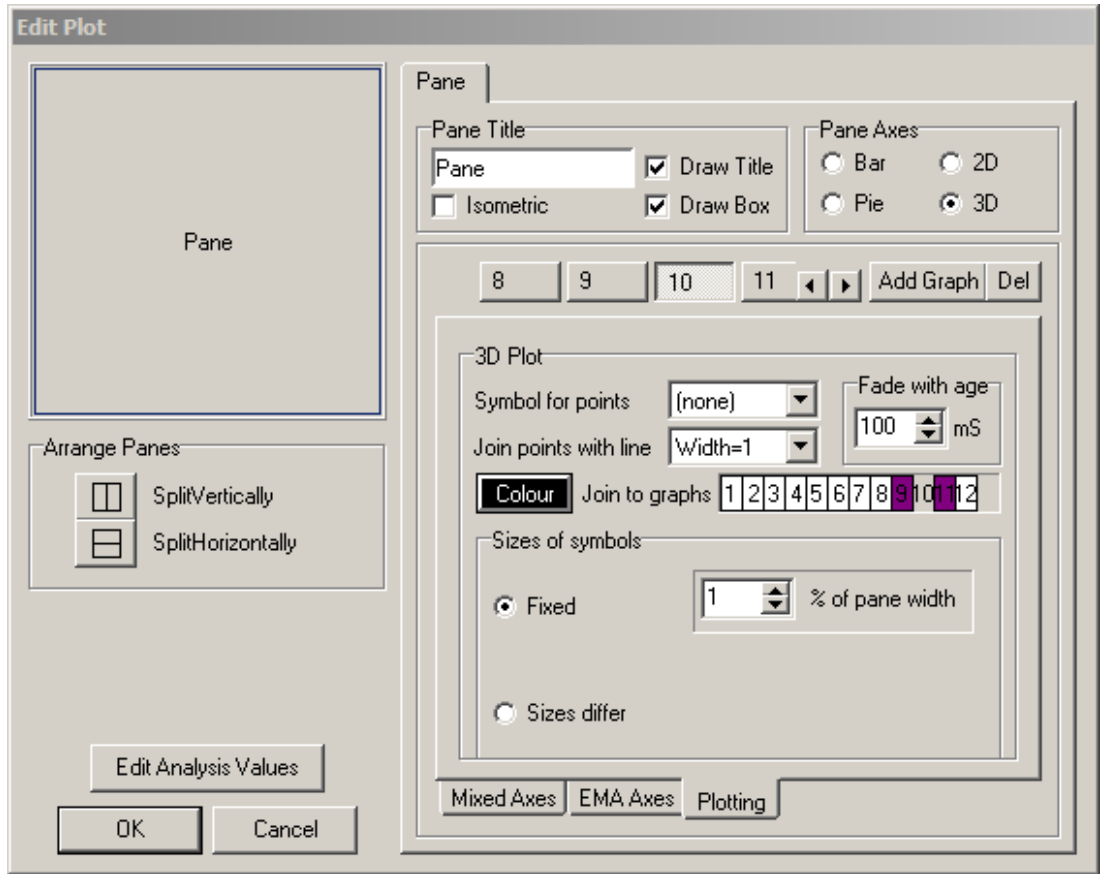

Figure 12 Selecting sensors to be linked together
7. Select the 'Plotting tab' and choose which channels to link together with a coloured line. For example to link three tongue sensors, select the graph with the middle tongue coil (in Figure 12 Graph 10 is the tongue blade sensor). Then click on the number on the array labelled 'Join to graphs' that corresponds to the tongue tip. A colour dialogue will pop up. Select the colour you wish for the line joining the Tongue blade to the tongue tip and click OK. Do the same again for the graph number corresponding to the tongue dorsum.